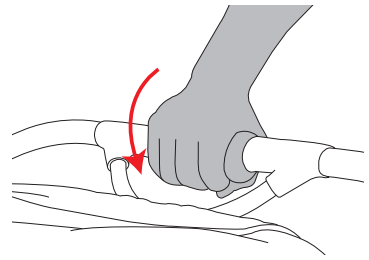

Figure 28
- To fold, squeeze the button on the fold mechanism in the center of the handlebar and rotate the mechanism forward until the stroller begins to collapse. Gently rotate the stroller downward until the stroller is fully collapsed. See Figure 28.